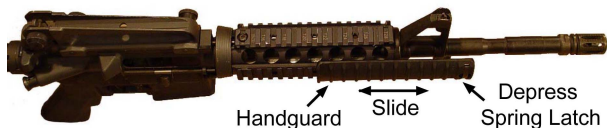

Figure 3-38. Upper Handguard Sections
- (2) To remove the side and bottom sections, press the spring latch and move toward muzzle end.
- (3) Upper sections are removed by pressing the spring latch and sliding the sections to the rear of the upper receiver group. Refer to Figure 3-38.